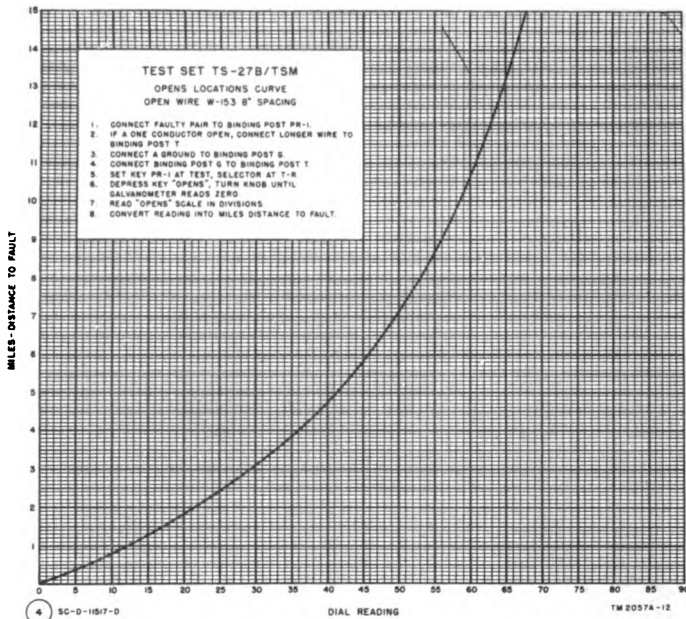

Figure 12. Test Set TS-27B/TSM, opens location curve for Wire W-153
- (3) Opens in Cable Assembly CC-345.
(4) Opens in open wire lines.
- (d) The 8-inch spacing curve for Wire W-153 (fig. 12) provides a means of converting the dial reading to the number of miles to the open for one of the more common types of open wire line. The curve for W-143 open wire line provides similar information for this facility. Data for curves for other types of lines may be obtained experimentally by taking opens readings on five or six opens inserted for the purpose at various distances from the test set. Blank curve sheets are provided in the lid of the chart assembly case for plotting such curves.**